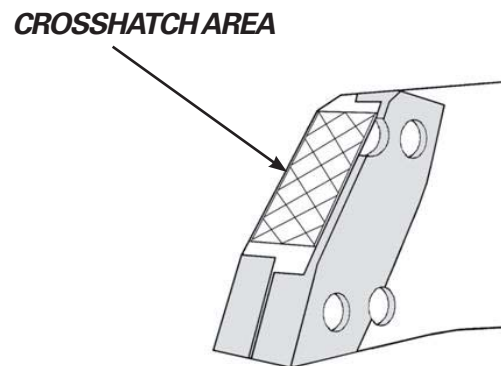

FIGURE 5-20
The area shown in **Figure 5-20** must be inspected daily, and maintained whenever the crosshatch pattern is almost worn down to the base metal surface. If you have any questions regarding this information, please call the Stanley LaBounty Service Department at (218)-834-6901.
If, as a result of production considerations, the crosshatch pattern has been worn down into the base metal of the shear upper jaw, the Saber Tip can be used as a guide for build-up to proper profile prior to applying new hardsurfacing. If the edge of the Saber Tip has been worn, it will be necessary to remove the tip, rotate to the new front edge, and bolt into place. The surface of the upper shear face should be built up (using E-7018 welding rod, or E-70 series wire-following pre-heat procedures) to conform in profile to the new Saber Tip edge. Depending upon the model, this surface should be flush with the Saber Tip edge to 1/16" above the edge. Once the surface has been built up and ground to profile, the crosshatch hardsurface pattern can be applied. Use 1 ½" spacing in the crosshatch hardsurface pattern, as shown in **Figure 5-20**.